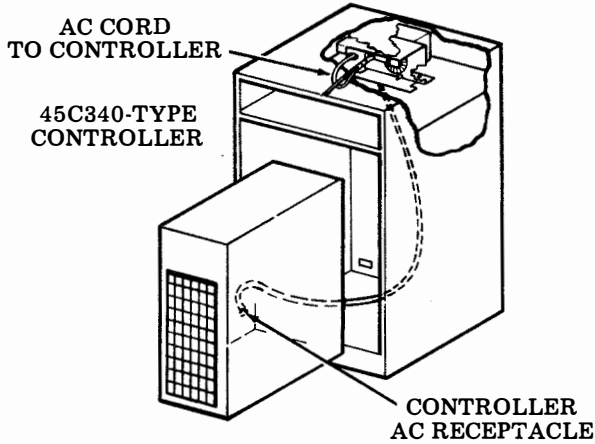

Fig. 3.
3.05 Loosen the captive mounting screw on the bottom of the controller. Slide the controller out from the cabinet and hook on the forward edge of cabinet rails. Do not strain any attached cables. Route the ac cord through the cutout located in left rear corner of the shelf and plug into the lower controller receptacle. See Fig. 3.